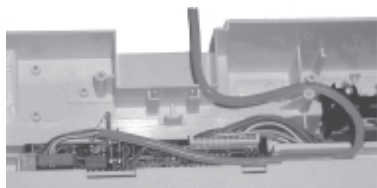

Figure 3: Cable outlet “right”
2. Remove the protective covering by carefully pulling it out of the keyways to the back. Inside you can see the cable routed to the right cable outlet as shown in Figure 3.